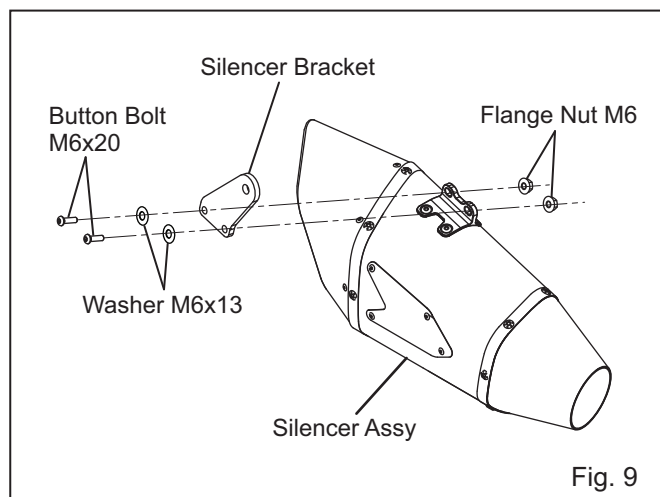

Fig. 9
- 11) Attach Silencer Bracket on to Silencer Assy with 2 of each Button Bolt M6x20, Washer M6x13 and Flange Nut M6 (See Fig. 9). Tighten the bolts by hand only at this stage.